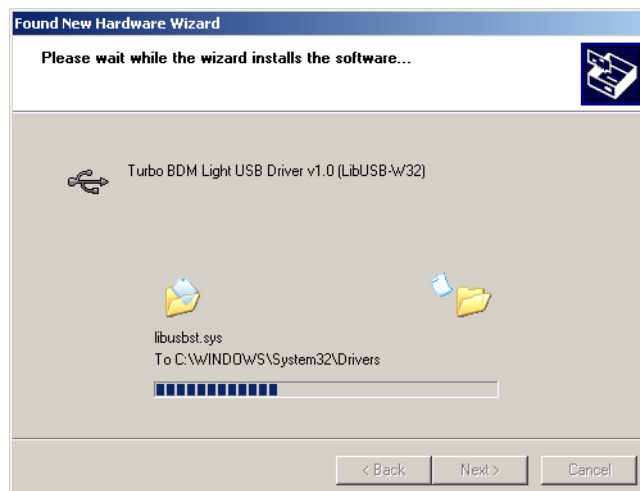

FIGURE 7. Driver installation in progress
- Windows will then install the required driver and DLL files (see figure 7).